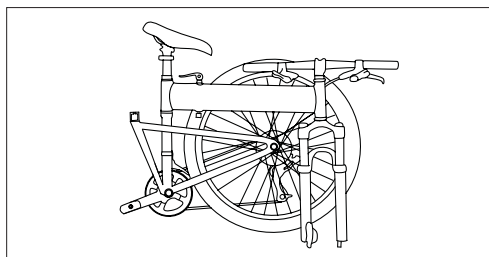

Fig. 23: Folded bike.
7. Pull the boom tube of the bike toward you and fold the bike in half (Fig. 23).
8. If done correctly, the bike should resemble Fig. 23 with the handlebars secured between the rear wheel and the boom tube.